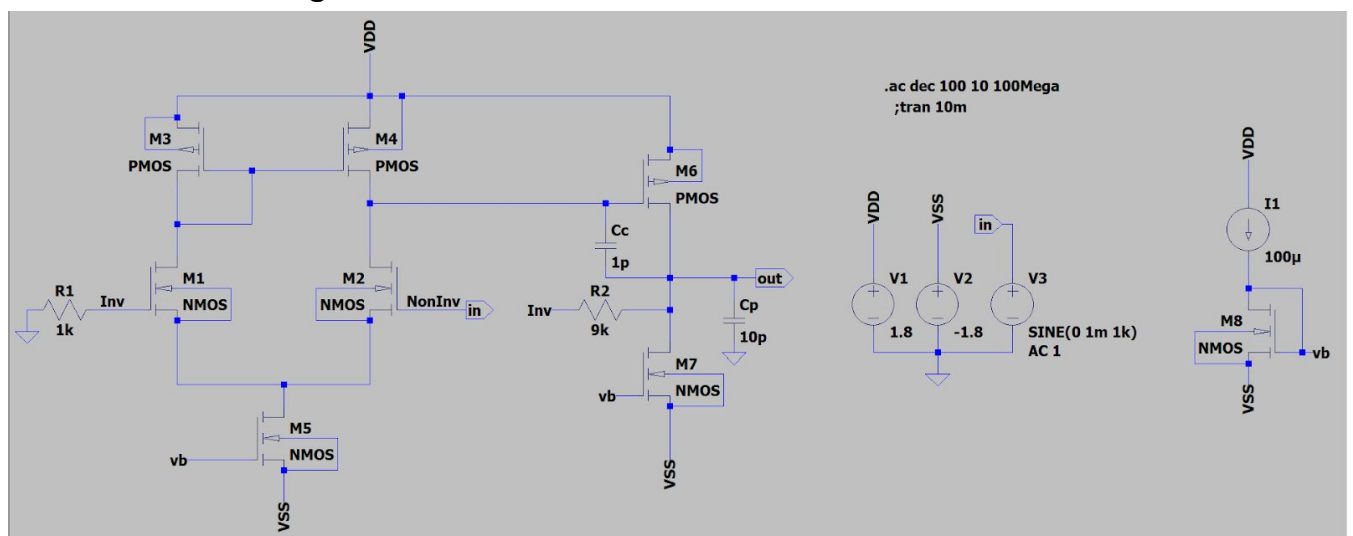

Fig.2
7. Fig.2 is the non-inverting configuration in op-amp, all the transient responses show that the outputs are in phase with input as by the definition of the non-inverting configuration, as the input is connected to the Non-inverted terminal so the output got shifted in phase by  $360^\circ$  (i.e., inphase).